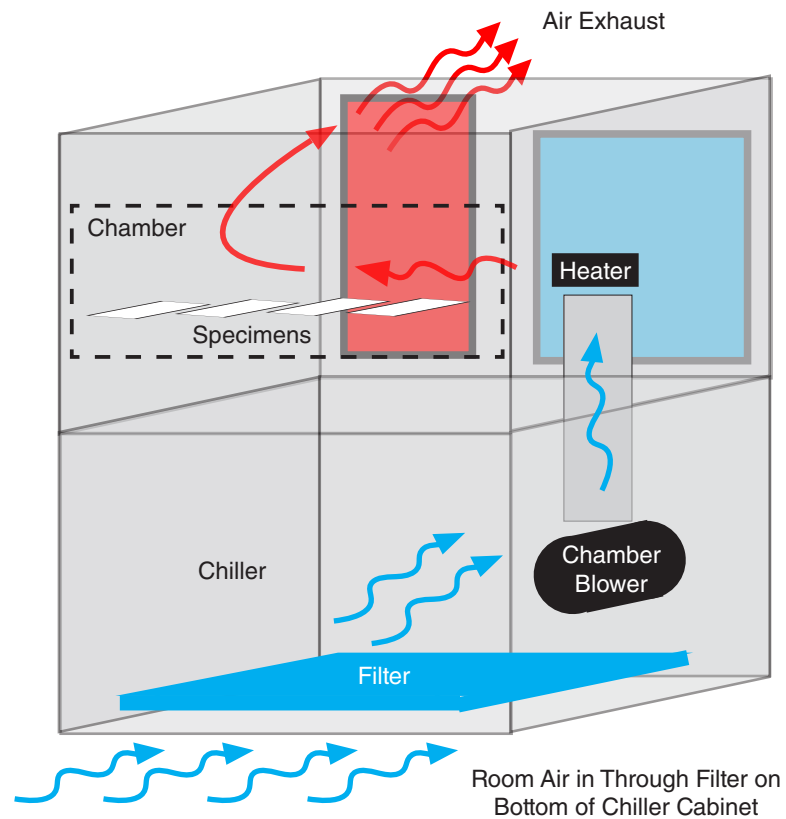

Figure 10.3c: Schematic front view of Xe-1-BCE and Xe-1-SCE air circulation.
- Q-SUN Xe-1-BCE and Xe-1-SCE models cool the test chamber by blowing either room air (if the chiller is off) or room air that has been cooled (if the chiller is on) into the chamber (Figure 10.3c).